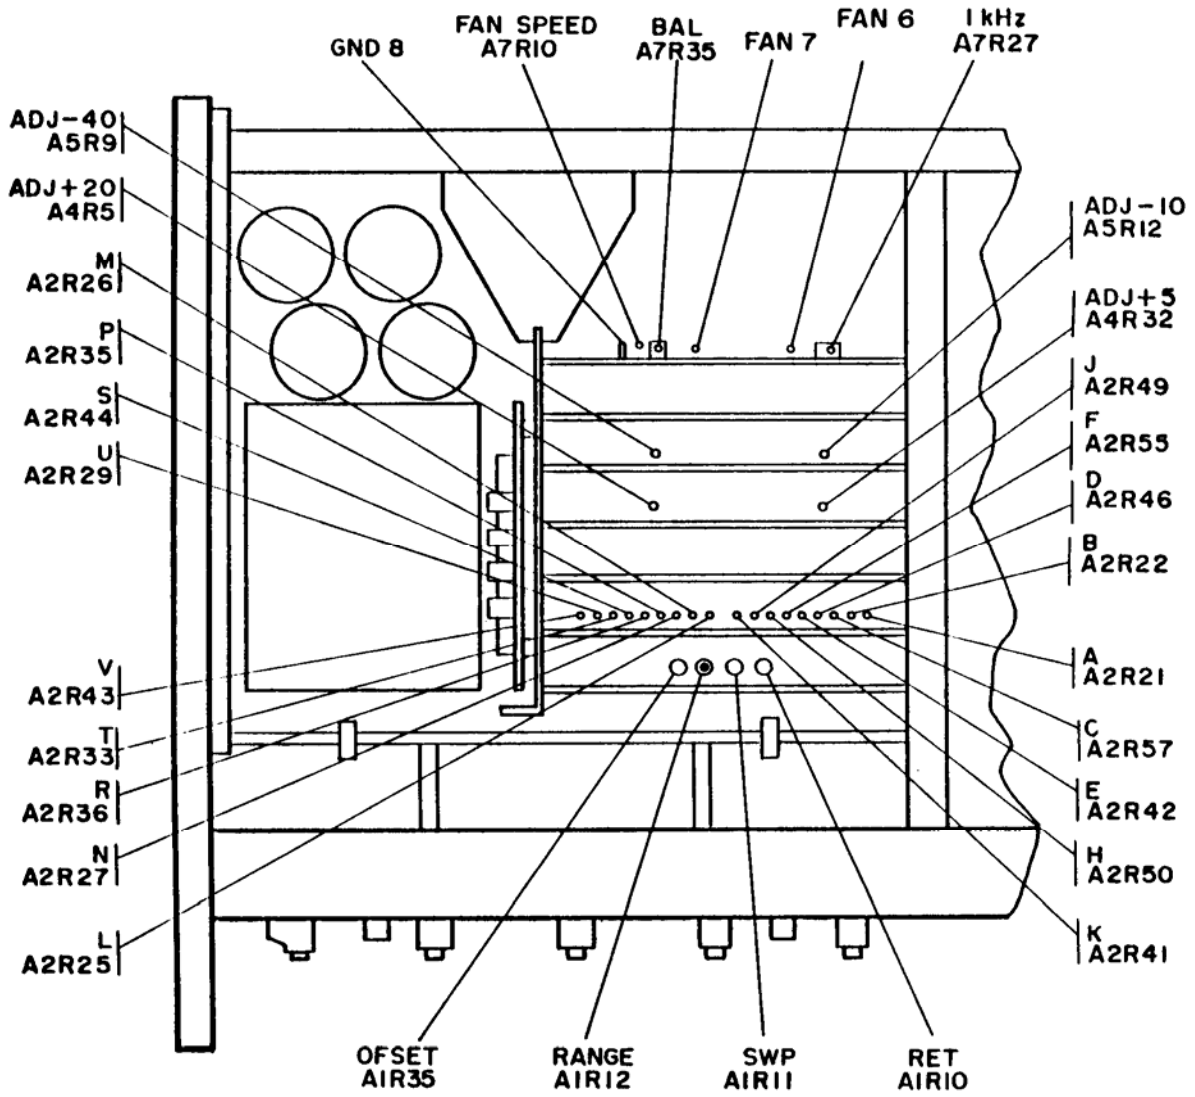
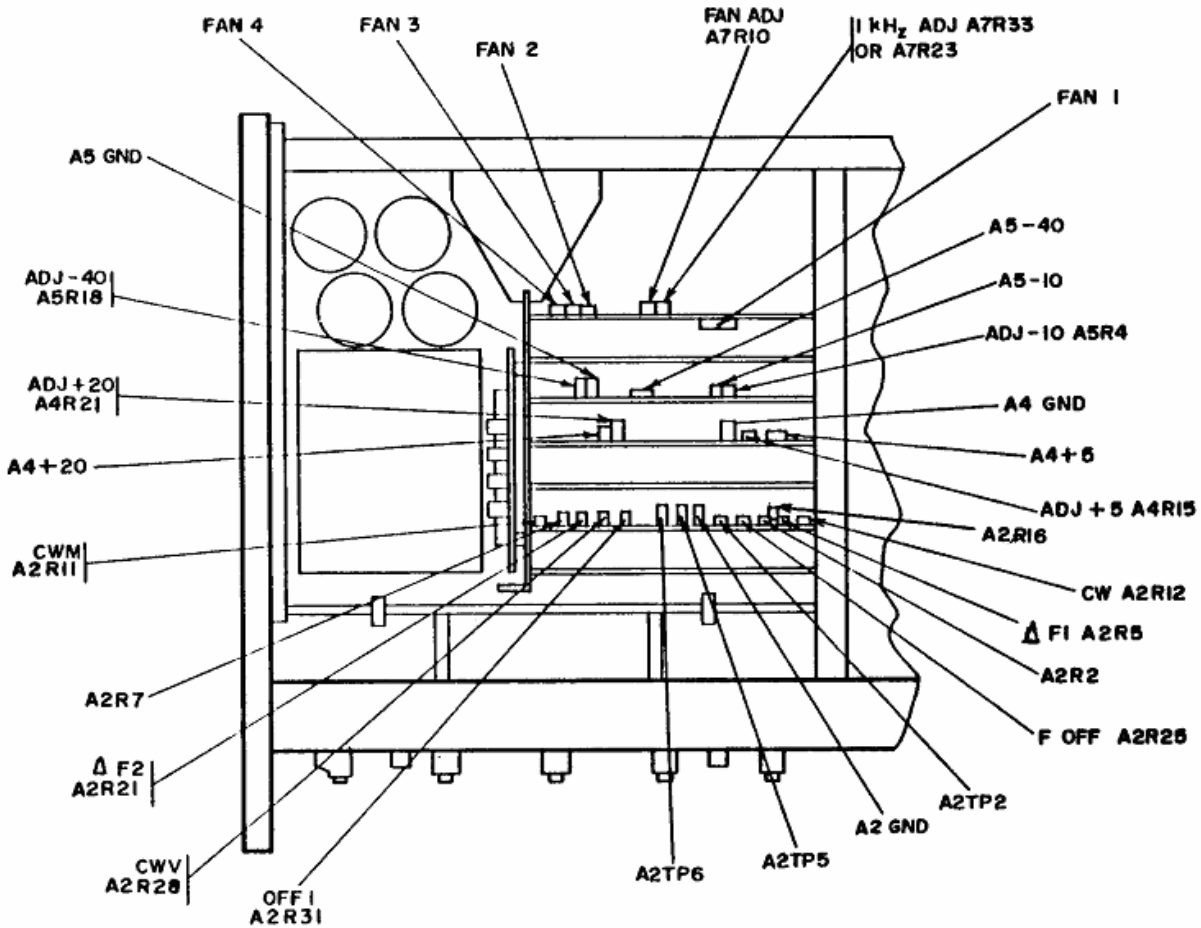
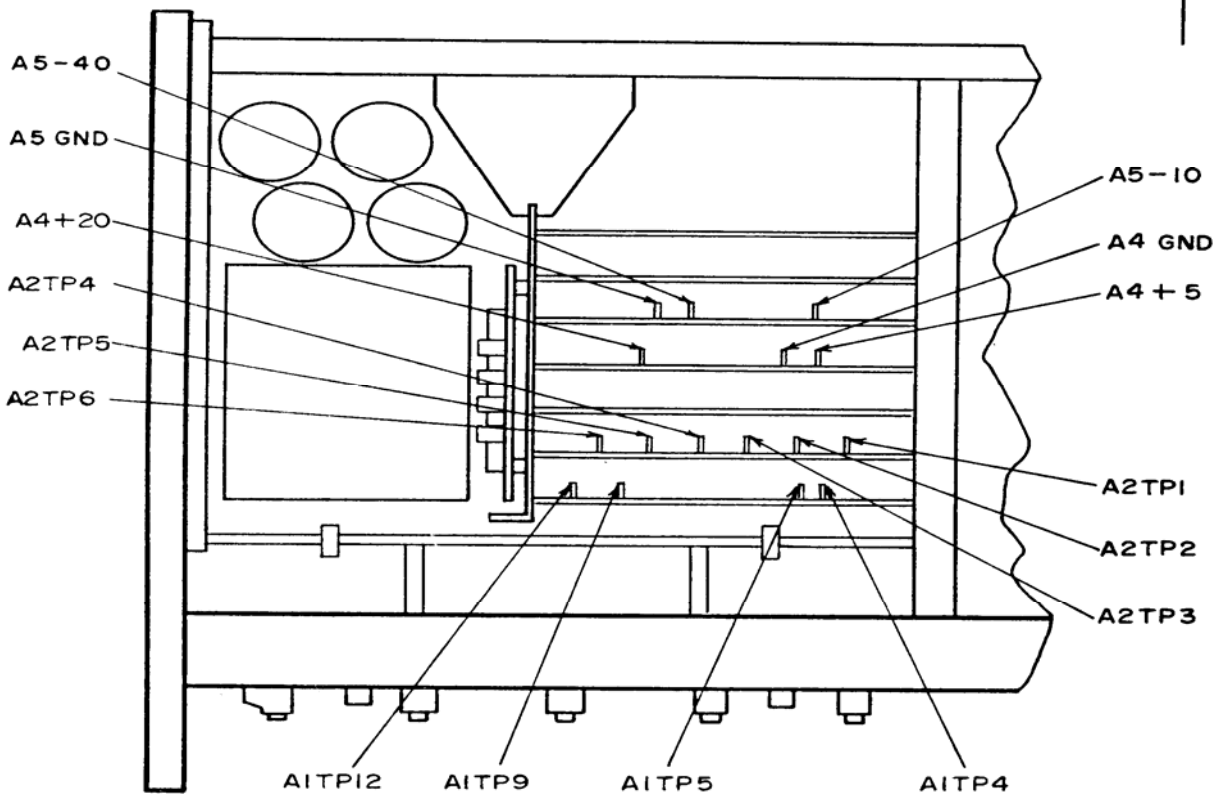

Figure 1. Model 8620C - partial top view.
Figure 2. Model 8620A - partial top view.
Figure 3. Model 8620C - partial top view.
- (3) Set **1 kHz SW WV/OFF (AM-MOD)** switch (rear panel) to **1 kHz SQ WV (1 kHz)**.
- (4) Press **CW** pushbutton and set **RF** switch to **ON**.
- (5) Adjust **POWER LEVEL** control cw to drive microwave frequency counter. If microwave frequency counter does not indicate between 0.95 and 1.05 kHz, perform **b** below.
**b. Adjustments.** Adjust 1 kHz A7R27 (fig. 1) (A7R23 or A7R33, fig. 2) for 1.00 kHz indication on microwave frequency counter (R).
- (1) Select calibration scale with **BAND** selector.
- (2) Connect multimeter between A2TP3 and A4 GND (fig. 3).
(1) Adjust A A2R21 (fig. 1) for 0.000 V dc on multimeter (R).
(2) Adjust B A2R22 (fig. 1) for 10.000 V dc on multimeter (R).
(1) Set **STOP MARKER** (red pointer) to the **0-V** mark on calibration scale.
(2) Connect multimeter to A2TP2 (fig. 3) and ground. If multimeter does not indicate between -0.001 and +0.001 V dc, perform **b** (1) below.
(3) Set **STOP MARKER** pointer to the **10-V** mark on calibration scale. If multimeter does not indicate between +9.995 and +10.005 V dc, perform **b** (2) below.
(4) Set **START MARKER** pointer to the **0-V** mark on calibration scale and connect multimeter to A2TP1 (fig. 3). If multimeter does not indicate between -0.001 and +0.001 V dc, perform **b** (3) below.
(5) Set **START MARKER** pointer to the **10-V** mark on calibration scale. If multimeter does not indicate between +9.995 and +10.005 V dc, perform **b** (4) below.
- (1) Adjust S A2R44 (fig. 1) for 0.000 V dc on multimeter (R).
- (2) Adjust P A2R35 (fig. 1) for 10.000 V dc on multimeter (R).
- (3) Adjust K A2R41 (fig. 1) for 0.000 V dc on multimeter (R).
- (4) Adjust N A2R27 (fig. 1) for 10.000 V dc on multimeter (R).
- (1) Connect multimeter to A2TP5 and A2 GND (fig. 2). Press **CW** pushbutton.
- (2) Set white **CW** pointer to right end of scale (10 V) and make fine adjustments for +10  $\pm$ 0.001 V dc indication on multimeter.
- (3) Move positive lead to A2TP6 (fig. 2) and press **START** pushbutton. If multimeter does not indicate between +9.995 and +10.005 V dc, perform **b** below.
- (4) Move positive lead to A2TP5 (fig. 2).
- (5) Press **CW** pushbutton and adjust **CW** control for 4.000  $\pm$ 0.001 V dc indication on multimeter.
- (6) Move positive lead to A2TP6 and press **START** pushbutton. If multimeter does not indicate between +3.990 and +4.010 V dc, perform **b** (2) below.
- (1) Adjust CWM A2R11 (fig. 2) for 10.000 V dc on multimeter (R).
- (2) Adjust CWM A2R11 (fig. 2) for 4.000 V dc on multimeter and repeat **a** (1) through (6) above (R).
- (1) Set **STOP MARKER** pointer to the **5-V** mark on calibration scale and adjust **MANUAL** control full ccw.
- (2) Set **START MARKER** pointer to the **0-V** mark on calibration scale and press **MARKER SWEEP** pushbutton.
- (3) Move multimeter positive lead to A2TP5 (fig. 3). If multimeter does not indicate between -0.001 and +0.001 V dc, perform **b** (1) below.
- (4) Set **START MARKER** pointer to the **10-V** mark on calibration scale. If multimeter does not indicate between +9.995 and +10.005 V dc, perform **b** (2) below.
(5) Set **STOP MARKER** pointer to the **0-V** mark on calibration scale and turn **MANUAL** control fully cw. If multimeter does not indicate between -0.005 and +0.005 V dc, perform **b** (3) below.